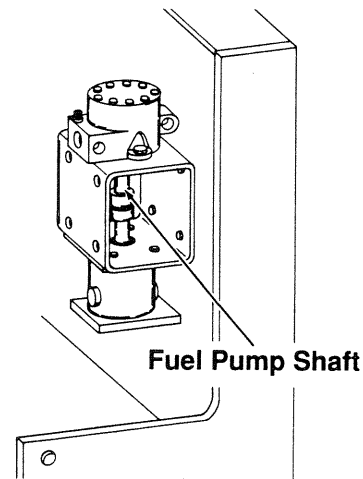

Figure 8
(1) Turn fuel pump *on*. Make sure fuel pump shaft is rotating. (*Figure 8*)
(2) If pump is not operating, check for 12 vdc at motor. If voltage is present, the pump motor is bad.
(3) If there is no voltage, refer to the Electrical Troubleshooting section.
(4) Check fuel pump pressure. The pump must produce 100 psi in the fuel line. Adjust pump if the pressure test is under 100 psi.